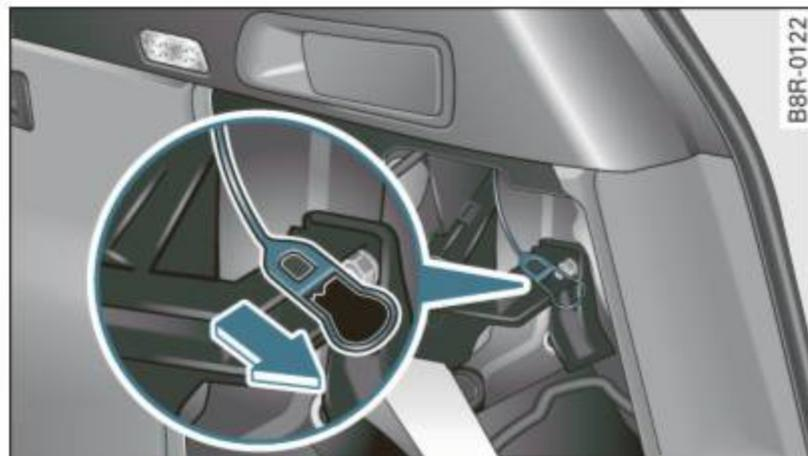

Fig. 197 Luggage compartment: Emergency opening of fuel filler flap
- Loosen the strap from its bracket and pull on it ⇒ fig. 197. Now you can open the fuel filler flap as usual. ■